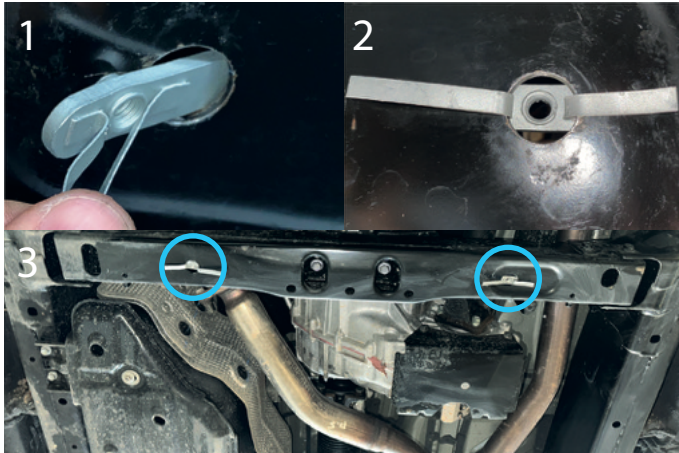

Fig. 1
1. Install insert nuts M8x70 (item A) as shown in fig.1.